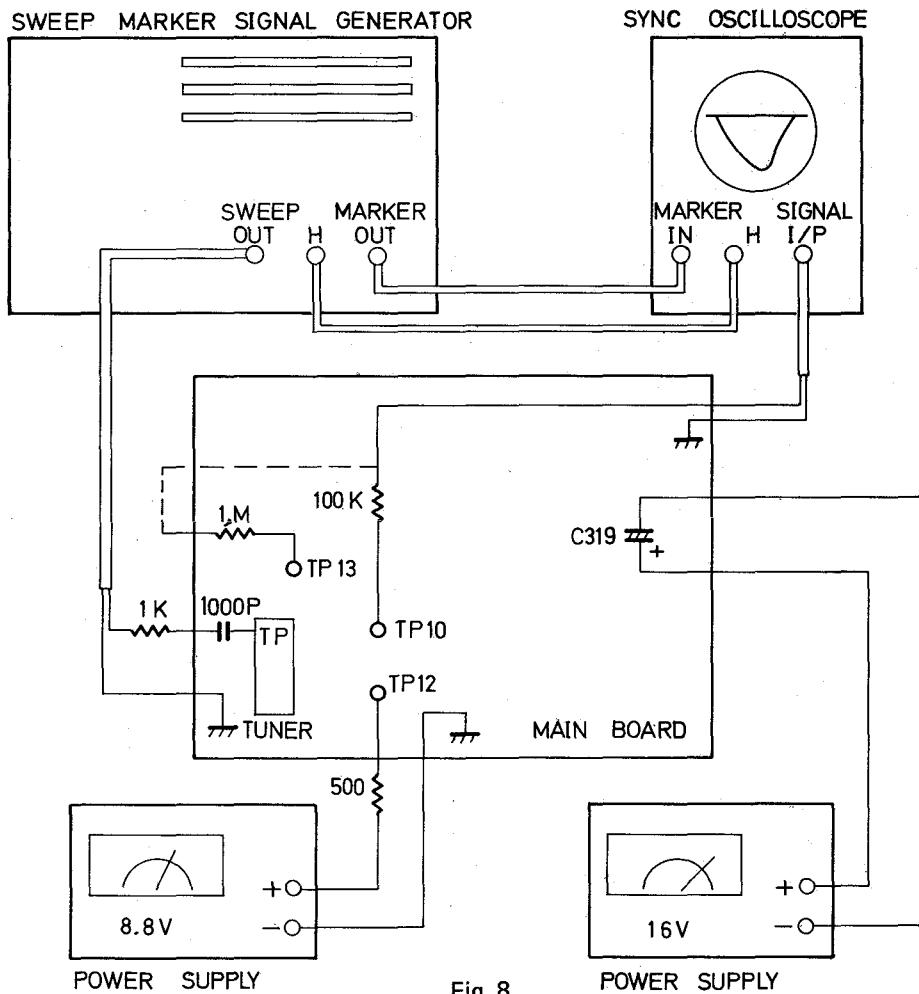

Fig. 8
- (1). Connect the signal output of sweep/marker generator in series to Tp on tuner through 1K ohm resistor and 1000 pf capacitor (See Figure 8).
- (2). Connect the vertical input terminal of a sync oscilloscope in series with a 100K ohm resistor to TP 10 (IC201–pin39).
- (3). Apply a + 16V DC across C319 on Main Board.
- (4). Apply a + 8.8V DC dummy AGC bias in series to TP12 (pin 5 of IC101) through 500 ohm resistor.